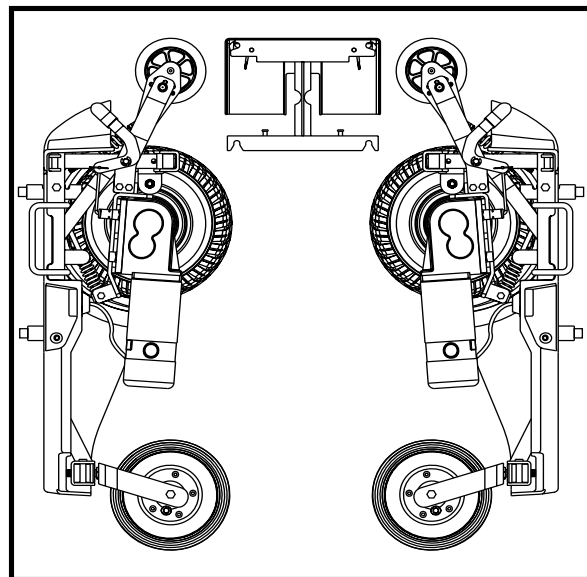

Figure 20. Frame Assembly Position
1. Place the three frame assemblies next to each other as shown in figure 20.